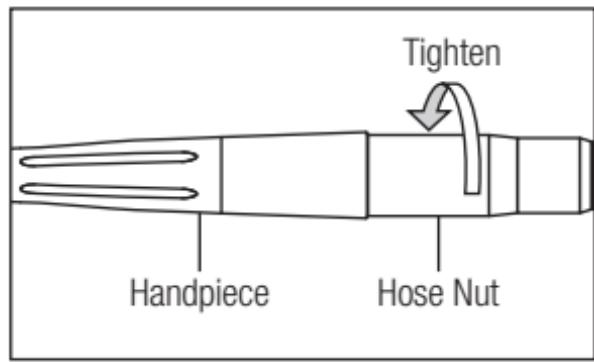

Fig. 4
1) Insert the handpiece correctly into the hose connector and tighten the hose nut.(Fig. 4)